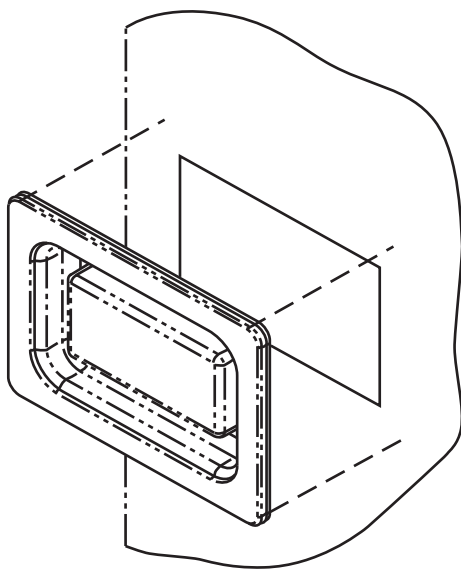

Fig. 4 - Installation of Window Bezel for Circuit Breaker Model Heater
4. Circuit breaker models require installing a window bezel in unit door to provide safe access to circuit breakers. The window bezel mounts on the outside of the blower door. (See Fig. 4.)
- b. Remove adhesive backing from window bezel and from the outside. Insert the window through the rectangular hole and seat firmly on the door surface. Press firmly in place to seat the adhesive. (See Fig. 4.)